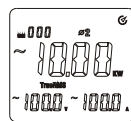

Figure 8-3
- As shown in Figure 8-3, please press SELECT key to select the 2nd phase location. It also can display active power, voltage and current of phase location of $\phi 2$.